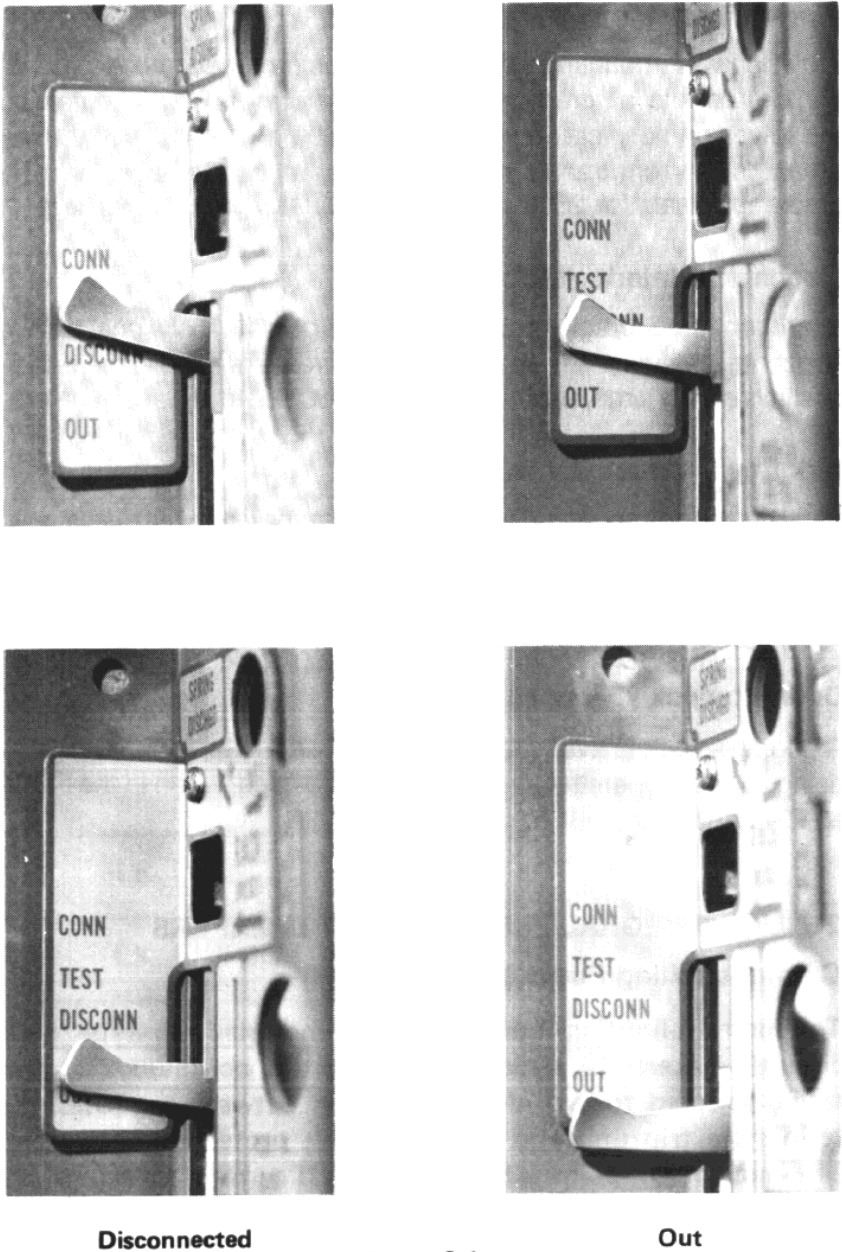

Figure 3-1
5. (a) Engage racking crank (15), (b) push racking release lever (10) to the left and hold, (c) rotate the racking crank (15) clockwise one full turn, (d) release hold as racking lever (10) is now captive, (e) continue to rotate the racking crank (15) clockwise until the racking lever (10) snaps back to its right-hand position, (f) the circuit breaker position indicator should now point to DISCONNECTED as shown in Figure 3-1.
6. (a) repeat Steps 5(a) through 5(e), (b) the circuit breaker position indicator should now point to TEST as shown in Figure 3-1.
8. (a) Repeat Steps 5(a) through 5(e), (b) the circuit breaker position indicator should now point to CONNECTED as shown in Figure 3-1. Refer to Step 7 as applicable.
10. (a) Engage racking crank (15), (b) push racking release lever (10) to the left and hold. See caution above, (c) rotate the racking crank (15) counterclockwise one full turn, CAUTION — do not rotate racking crank clockwise (applicable only to the CONNECTED position), (d) release hold as racking lever (10) is now captive, (e) continue to rotate the racking crank (15) counterclockwise until the racking lever (10) snaps back to its right-hand position, (f) the circuit breaker position indicator should now point to TEST as shown in Figure 3-1. Refer to Step 9 as applicable.
12. (a) repeat Steps 10(a) through 10(d), (b) continue to rotate the racking crank (15) counterclockwise until it stops. During this operation the charging springs will be discharged automatically. The racking release lever will still be captive in the left-hand position. (c) the circuit breaker position indicator should now point to OUT (WITHDRAWN).
13. (a) Open compartment door, pull out left-hand and right-hand cradle tracks (17) into the fully extended position. (b) Pull the circuit breaker out onto the extended cradle tracks (17). (c) Attach